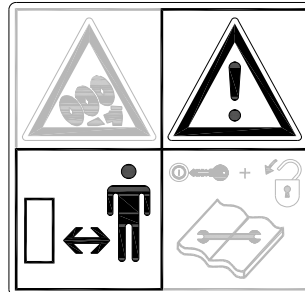

Figure 4
**Keep a distance of minimum 4 metres!** (Figure 4)